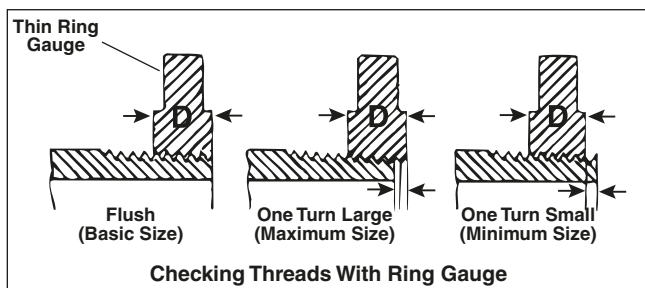

Figure 16 – Checking Thread Size
3. Inspect the size of the thread. The preferred method of checking thread size is with a ring gauge. There are various styles of ring gauges, and their usage may differ from that shown in *Figure 16*.